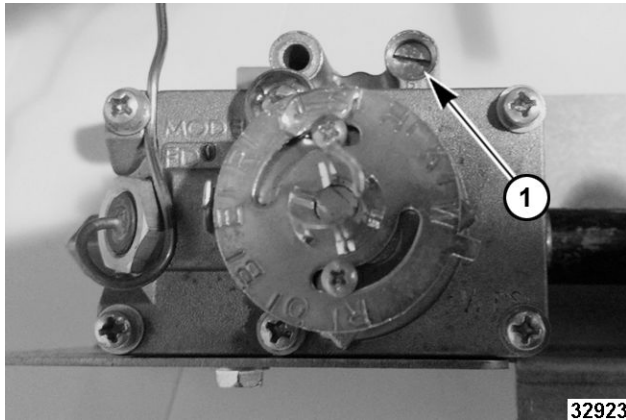

Fig. 121
5. With a screwdriver, turn by-pass flame adjustment screw (1, Fig. 121) counterclockwise to increase by-pass flame or clockwise to decrease flame until the entire burner has 1/8" min. to 1/4" max. stable flame on each port.